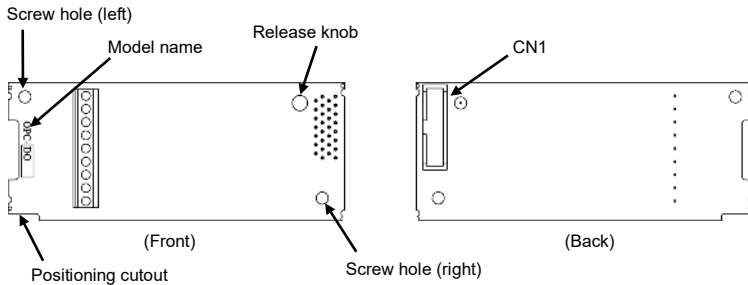

Figure 1.2 Name of Parts on Digital Output Interface Card (OPC-DO)
- Digital output interface card: "OPC-DO" (See Figure 1.2.)